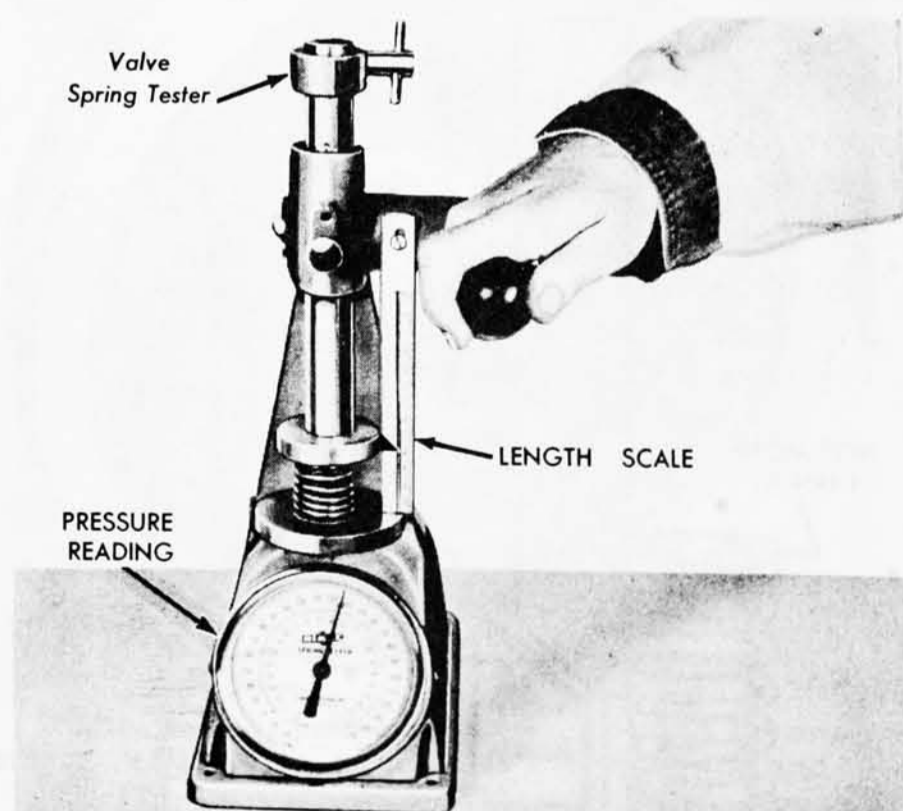

Fig. 16—Valve Spring Pressure
**VALVE SPRING PRESSURE.** Check the spring for proper pressure (Fig. 16). The springs should exert a pressure of 71-79 pounds when compressed to 1.780 inches (wear limit 64 pounds) or a pressure of 161-177 pounds when compressed to 1.390 inches (wear limit 145 pounds). Weak valve springs cause poor engine